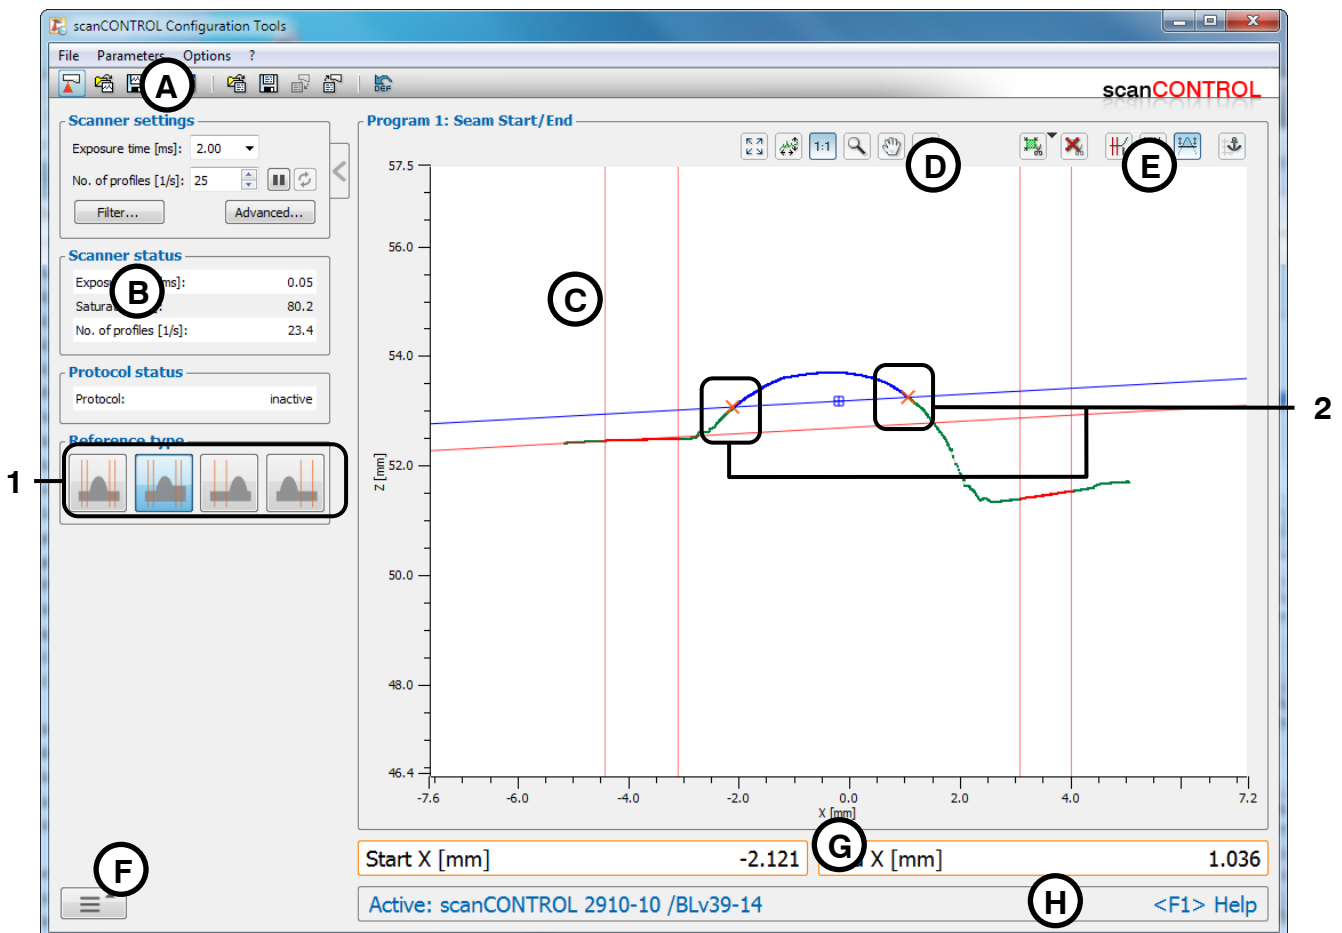

Fig. 4.26: "Seam Start/End" measuring program
- Define the type of the heightening (see Fig. 4.26 and Chapter 3.13.1):